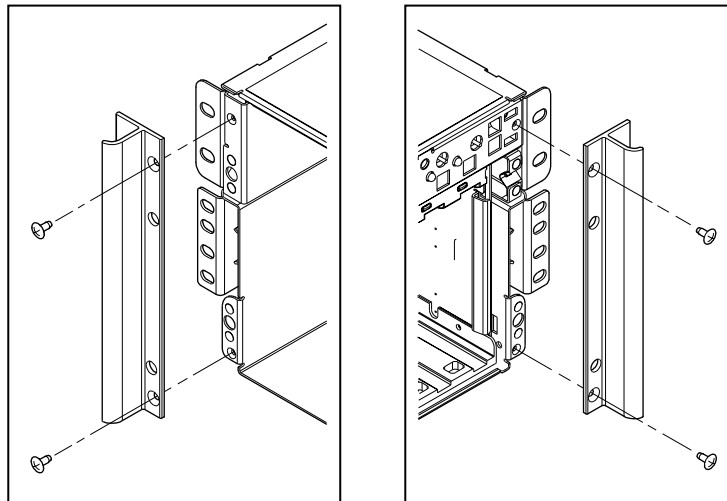

Figure 9 Handles Aligned With the Chassis
2. As shown in Figure 9, align the inside top and bottom holes of the handles with the top and bottom holes of the chassis.